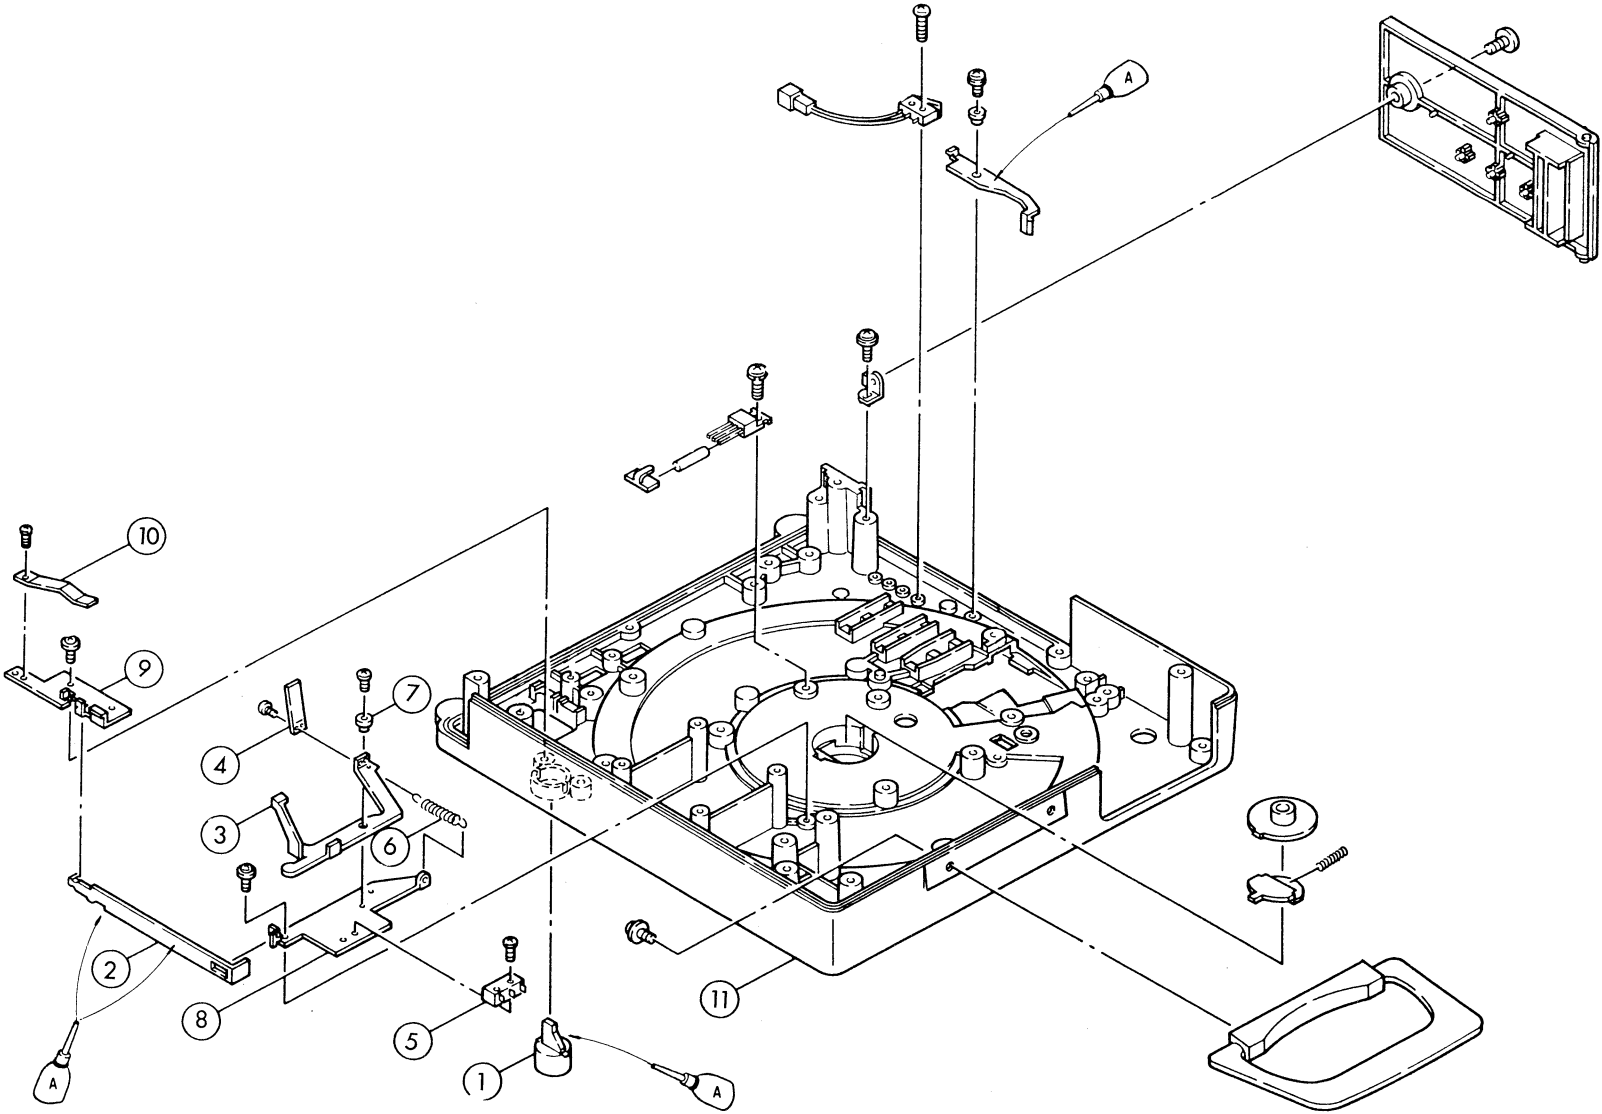

Fig. 5
IV — 3 Select Control Section (See Fig. 5)
2. Remove ⑥ before taking out ③.
3. See Fig. 5 for further disassembly.